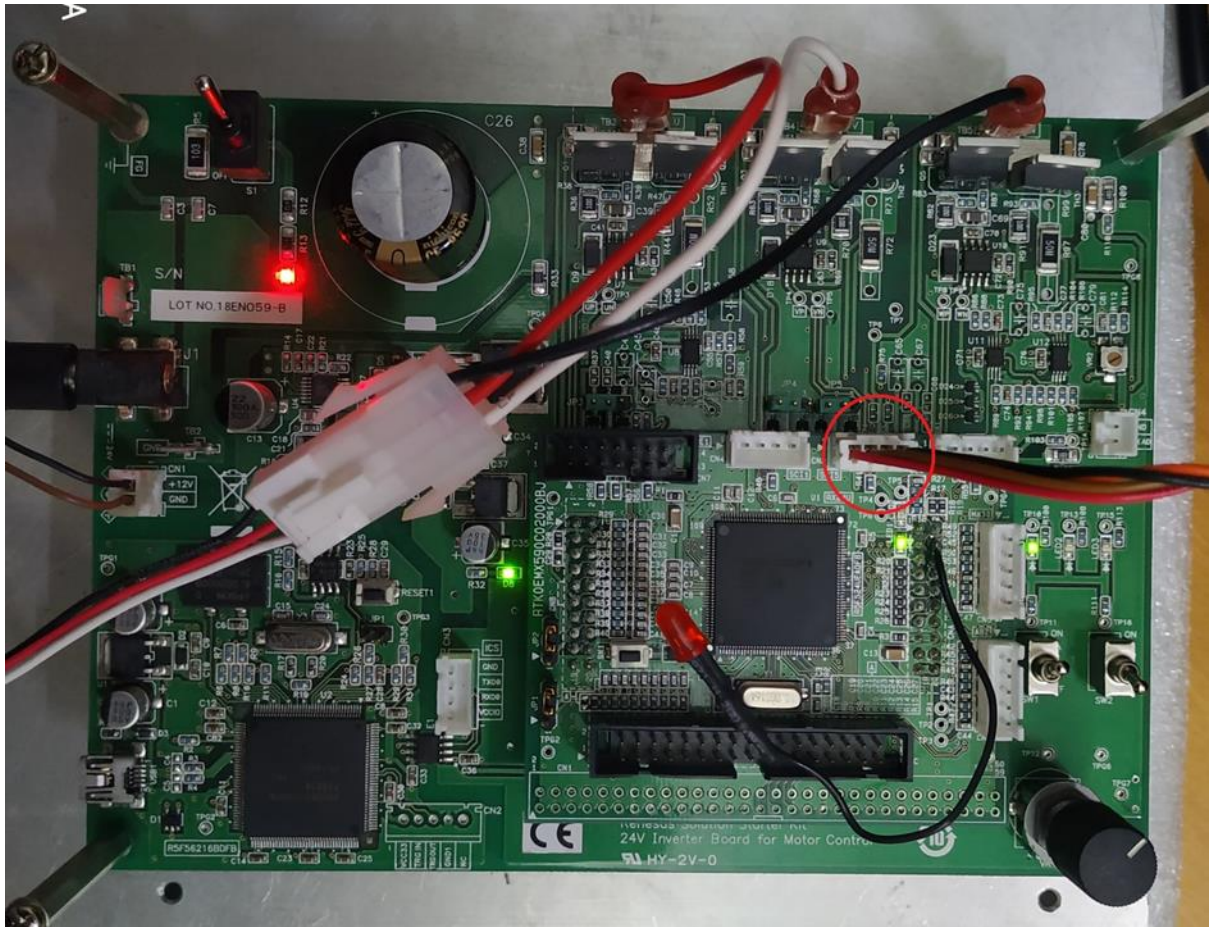

Figure 7. SCI connection of RX24U
- Figure 7 below shows the SCI connection to RX24U CPU card